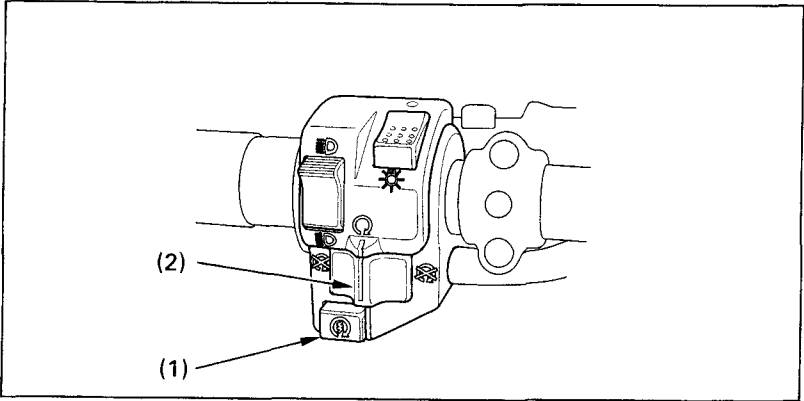

Fig. 2-8 (1) Starter button (2) Engine stop switch
The starter button (Fig. 2-8) is below the engine stop switch. To start the engine, press the starter button (1), with the transmission in neutral, the ignition switch I (ON) and the engine stop switch (2) at ○ (RUN).